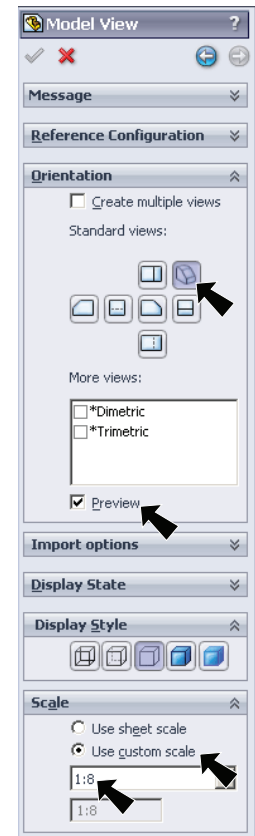

Fig. 1
Step 6. In the Property Manager, **Fig. 1** under **Orientation** set: